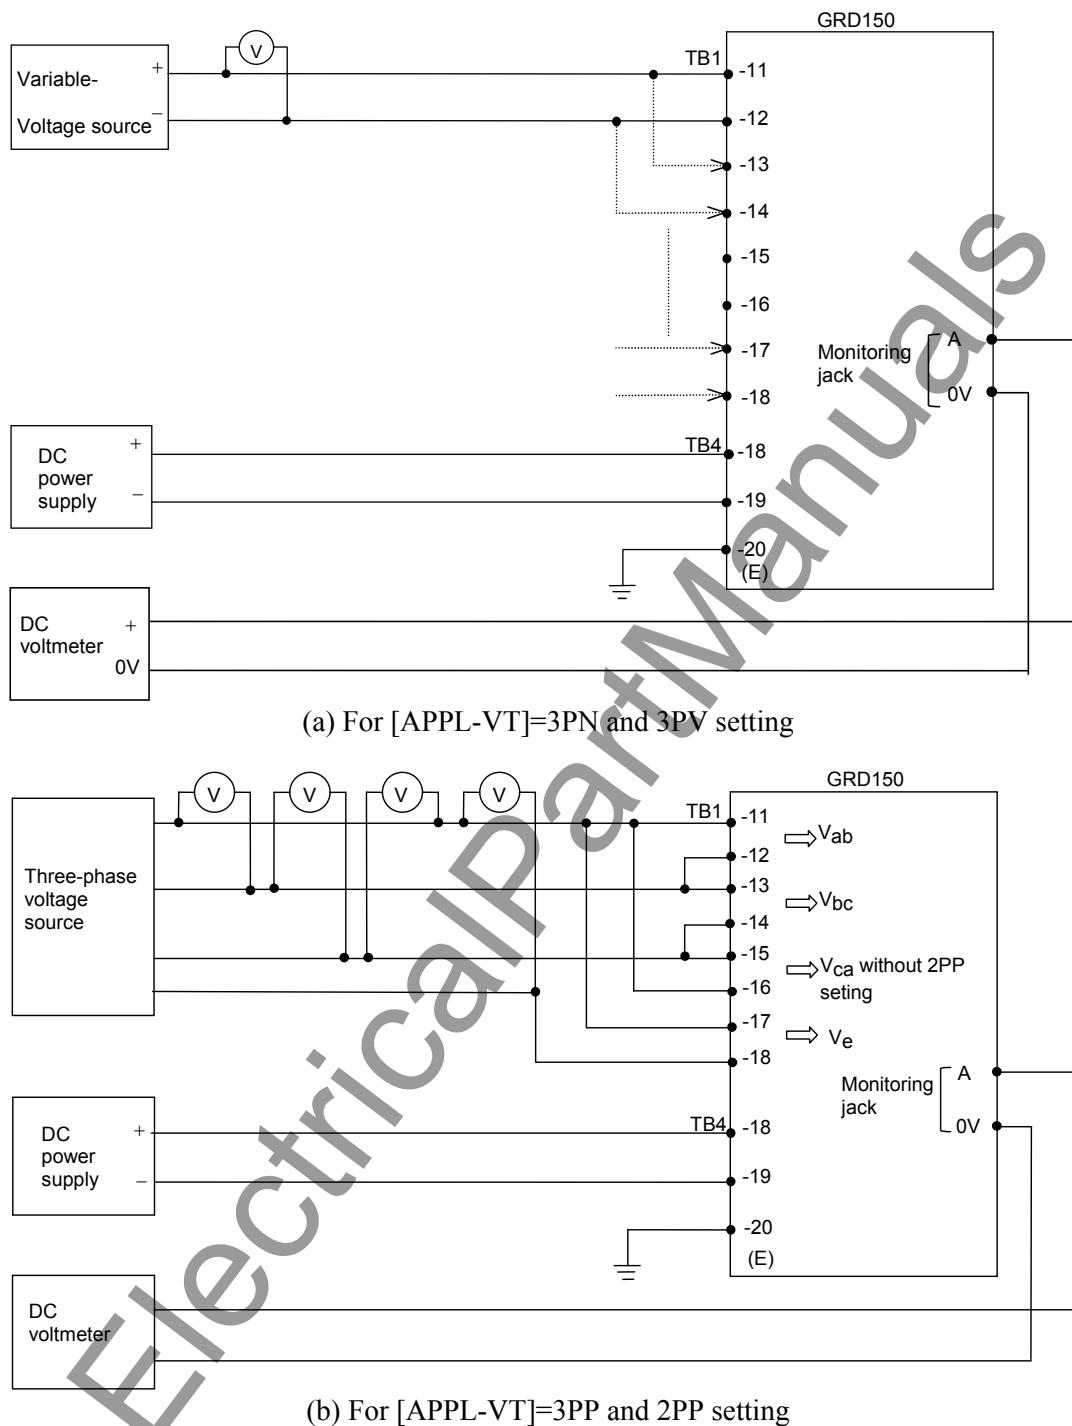

Figure 6.5.10 Operating Value Test Circuit
The testing circuit is shown in Figure 6.5.10.
- Apply a rated voltage as shown in Figure 6.5.10.
- Apply a rated voltage and frequency as shown Figure 6.5.10.